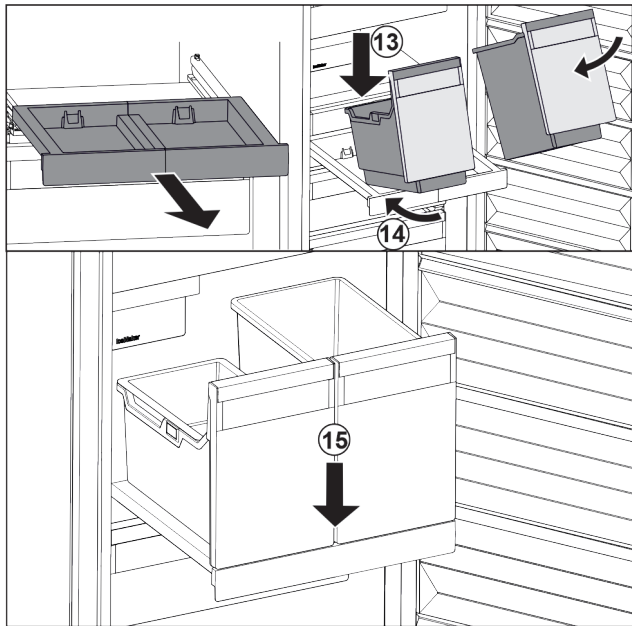

Fig. 32
- ▶ Place the container at an angle on the pull-out board. Fig. 32 (13)
- ▶ Slide the container to the back at an angle. Fig. 32 (14)
- ▶ Place container in the front. Fig. 32 (15)